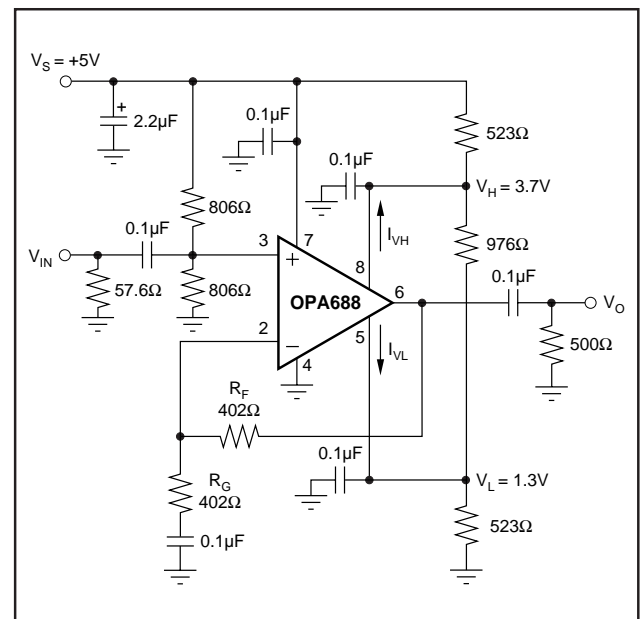

FIGURE 2. AC-Coupled, Single Supply Amplifier.
NOTES: (1) Junction Temperature = Ambient Temperature for low temperature limit and 25°C guaranteed specifications. Junction Temperature = Ambient Temperature + 23°C at high temperature limit guaranteed specifications. (2) TEST LEVELS: (A) 100% tested at 25°C. Over temperature limits by characterization and simulation. (B) Limits set by characterization and simulation. (C) Typical value for information only. (3) Current is considered positive out of node. (4) CMIR tested as < 3dB degradation from minimum CMRR at specified limits. (5) I_{VH} (V_H bias current) is negative, and I_{VL} (V_L bias current) is positive, under these conditions. See Note 3, Figures 2, and Figure 8. (6) Limiter feedthrough is the ratio of the output magnitude to the sinewave added to V_H (or V_L) when $V_{IN} = 0$. (7) V_H slew rate conditions are: $V_{IN} = V_{CM} + 0.4V$, G = +2, $V_L = V_{CM} - 1.2V$, $V_H =$ step between $V_{CM} + 1.2V$ and V_{CM} . V_L slew rate conditions are similar. (8) Linearity Guardband is defined for an output sinusoid (f = 5MHz, $V_O = V_{CM} \pm 1V_{p-p}$) centered between the limiter levels (V_H and V_L). It is the difference between the limiter level and the peak output voltage where SFDR decreases by 3dB (see Figure 9).
$G = +2$, $R_F = 402\Omega$, $R_L = 500\Omega$ tied to $V_{CM} = 2.5V$, $V_L = V_{CM} - 1.2V$, $V_H = V_{CM} + 1.2V$, (Figure 2 for AC performance only), unless otherwise noted.
Figure 2 shows an AC coupled, non-inverting gain amplifier for single supply operation. This circuit was used for AC characterization of the OPA688, with a 50Ω source, which
The OPA688 is nominally specified for operation using either ±5V supplies or a single +5V supply. The maximum specified total supply voltage of 12V allows reasonable tolerances on the supplies. Higher supply voltages can break down internal junctions, possibly leading to catastrophic failure. Single supply operation is possible as long as common mode voltage constraints are observed. The common mode input and output voltage specifications can be interpreted as a required headroom to the supply voltage. Observing this input and output headroom requirement will allow design of non-standard or single supply operation circuits. Figure 2 shows one approach to single-supply operation.
When the limiter voltages need to be within 2.1V of the supplies ($V_L \leq -V_S + 2.1V$ or $V_H \geq +V_S - 2.1V$), consider using low impedance buffers to set V_H and V_L to minimize errors due to bias current uncertainty. This will typically be the case for single supply operation ($V_S = +5V$). Figure 2 runs 2.5mA through the resistive divider that sets V_H and V_L . This keeps errors due to I_{VH} and $I_{VL} < \pm 1\%$ of the target limit voltages.